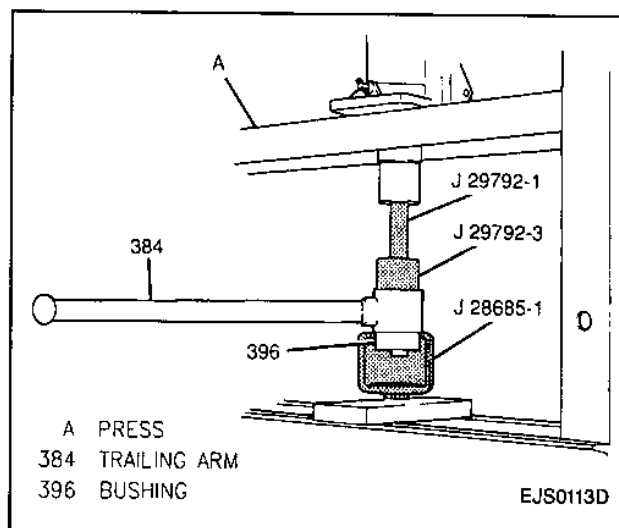

Figure 11—Removing Trailing Arm Bushing—2 of 2
5. Release pressure from press. Remove the J 28685-2 and install a J 28685-1. Press the remainder of the bushing out of the trailing arm (Figure 11).